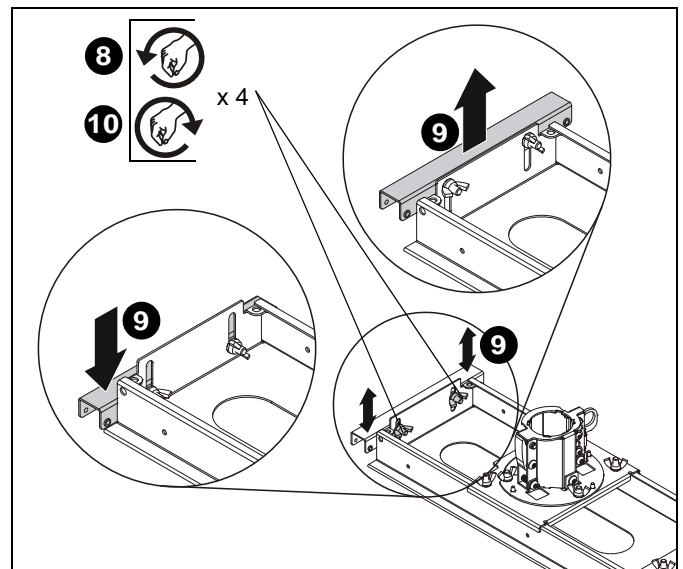

Figure 9
8. Loosen two wing nuts at each end of ceiling plate assembly. (See Figure 9)
10. Tighten wing nuts on adjustable bracket at each end of the ceiling plate assembly. (See Figure 9)